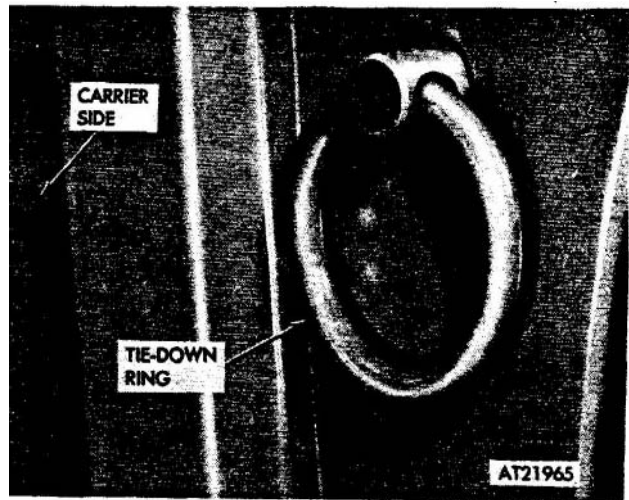

Figure 2-313. Vehicle tie-down rings, removal and installation.
a. Removal. Remove tie-down ring from side of carrier (fig 2-313).
b. Installation. Apply anti-seize lubricant (MIL-T-5544B) to threaded area of tie-down ring stud. Install tie-down in threaded hole of carrier structure and tighten securely (fig 2-313).